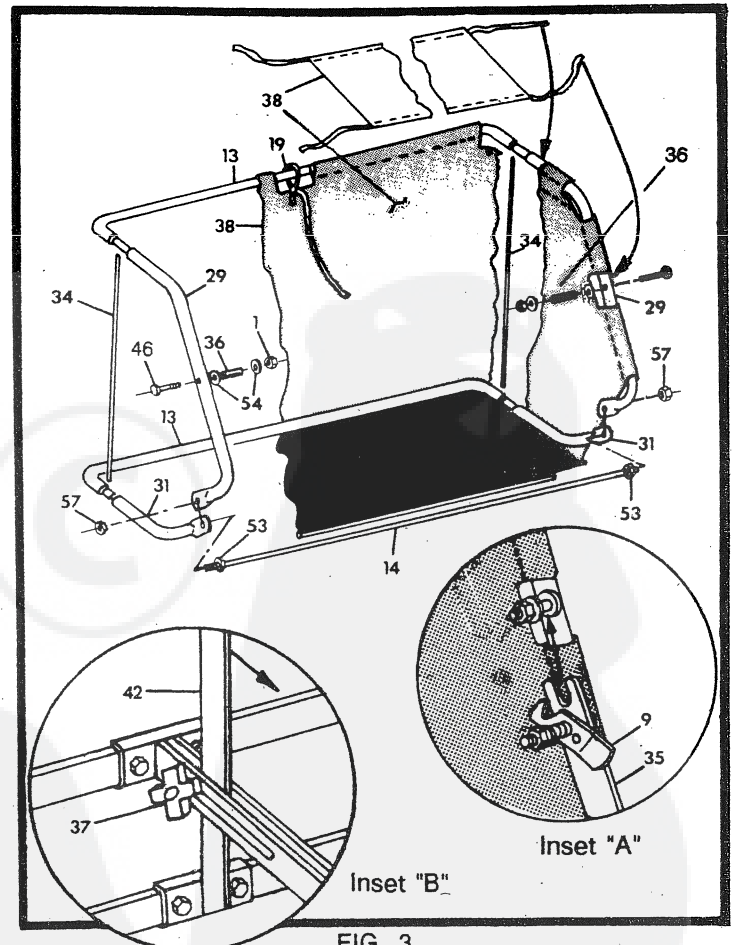

FIG. 3
Refer to Figure 3
● Open the Frame Latches (9) and place Hamper over Support Bars (35) and position the Hamper (Spacers) into slots (see Inset "A"-Fig. 3). Close Latches to retain.
● Tie the Windscreen (38) to Hamper Frame as shown in Figure 3 (ties to both sides of Frame).
Refer to Figure 3; Inset "B"